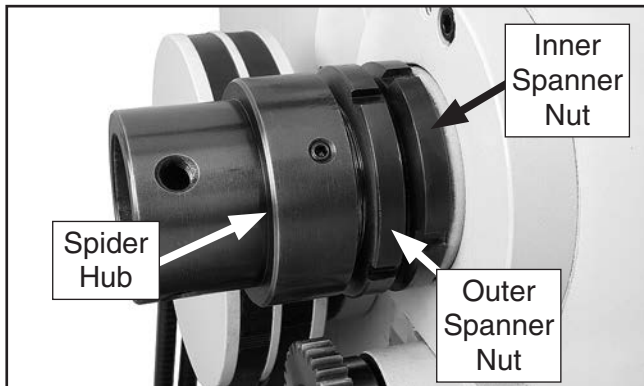

Figure 107. Spindle spanner nuts.
4. Place the chuck wrench in the cam-lock socket to keep the spindle from rotating, and loosen the outer spanner nut (see **Figure 107**) two turns. Removing the spider hub is not necessary.